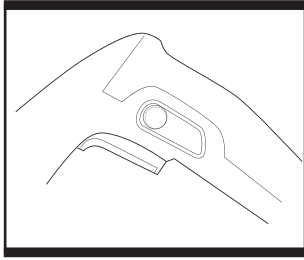

Fig. 1
1. SWITCHING ON AND OFF (Fig. 1)